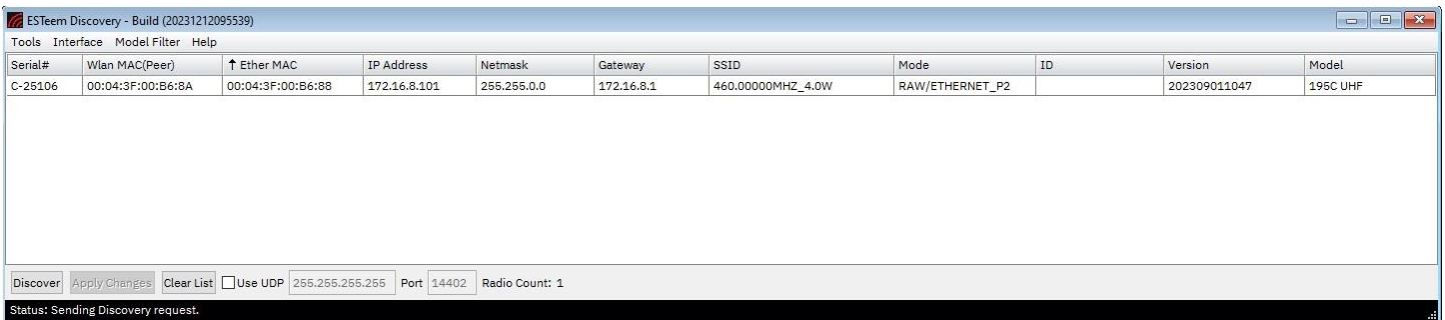

Figure 2: Discovered Example Radio
3. The ESTeem radio will be displayed (Figure 2). If the ESTeem radio is not on the same IP subnet as the computer, double click on the IP or Netmask and make the necessary changes. Press the 'Apply Changes' button when complete.